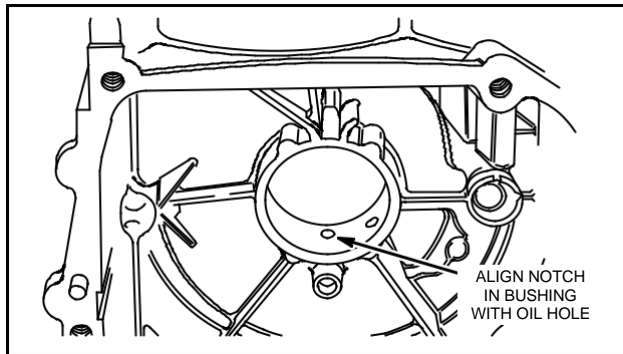

Fig. 923 - LOCATION OF OIL HOLE
**NOTE:** On Model Series 171700, 191700, magneto bearing replacement, place bushing against inside of cylinder with notch in line with oil hole in cylinder and against reamed out bearing. Note position of split in bearing. With a chisel or a screwdriver and a hammer, make a notch on inside edge of reamed out bearing opposite split, Fig. 923.